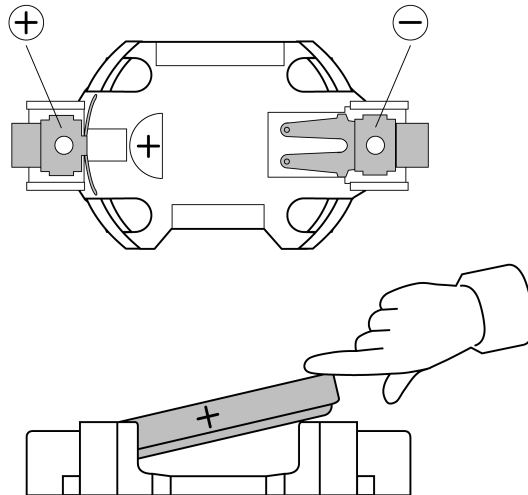

Figure 3: Insert battery
- Insert new battery. Note the correct polarity (Figure 3).